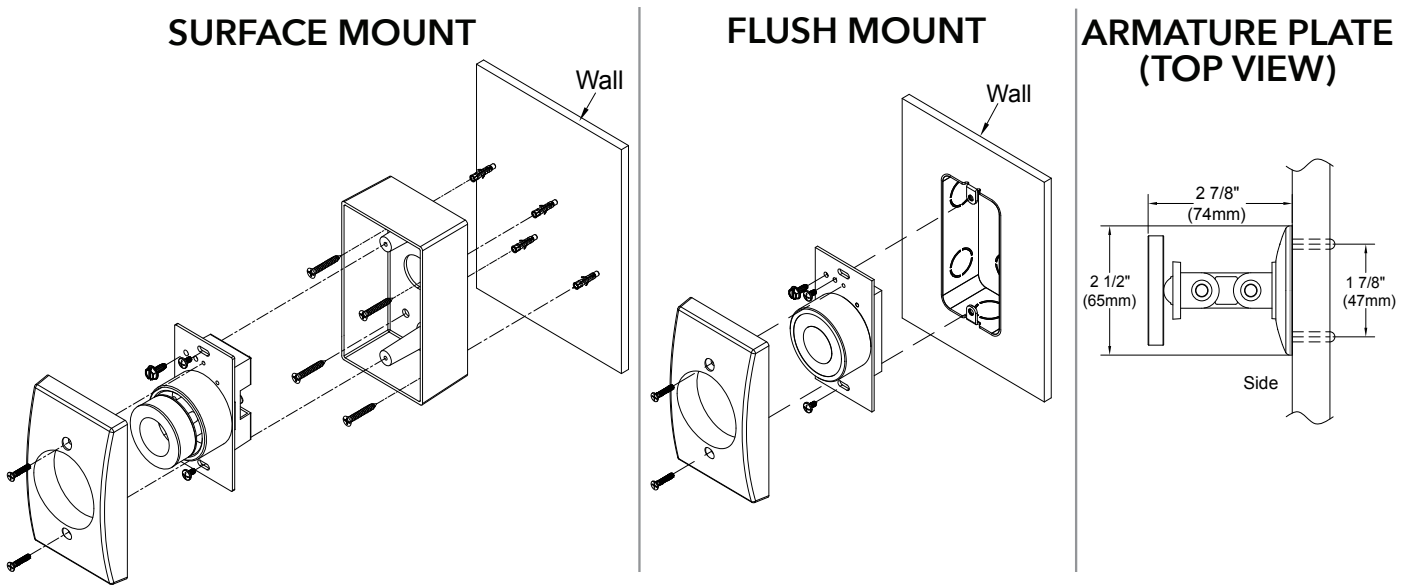

Figure 2: Exploded View
13. Mark the location of armature on the door, making sure it lines up with the door holder (extensions are available if needed.) (See figure 2).